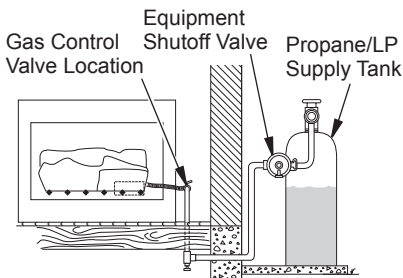

Figure 16 - Checking Gas Joints (Propane/LP only)
3. Check all joints from gas meter to equipment shutoff valve for natural gas or propane/LP supply to equipment shutoff valve for propane/LP (see Figures 16 and 17, page 15). Apply noncorrosive leak detection fluid to all joints. Bubbles forming show a leak.
4. Check all joints from equipment shutoff valve to control valve (see Figures 16 and 17). Apply noncorrosive leak detection fluid to all joints. Bubbles forming show a leak.